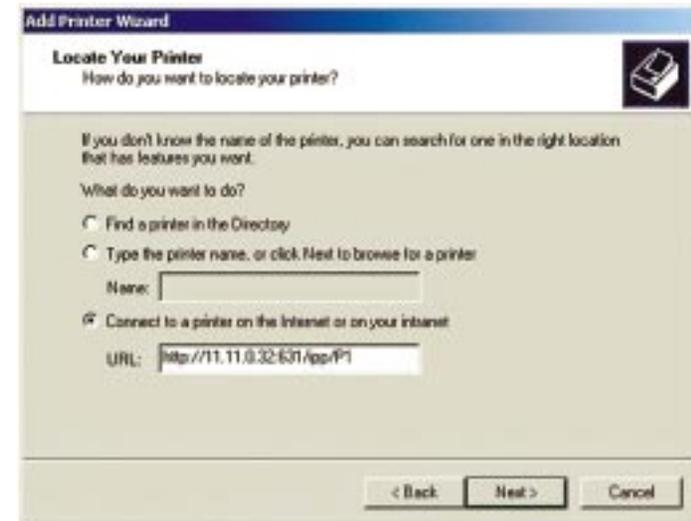

Figure 8-4
2. Select **Network Printer** and click **Next** to see the Locate your Printer screen, as shown in Figure 8-4.